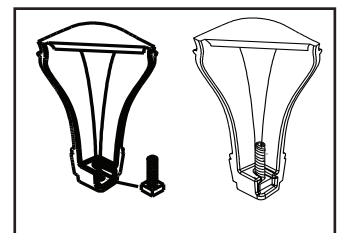

Figure 19.6
2. Slide assembled nuts and bolts into slots on legs with the nuts on the bottom. **Figure 19.6.** Use a 5/32 in. (3.96mm) Allen wrench to adjust legs up and down to desired level. **Figure 20.7.**